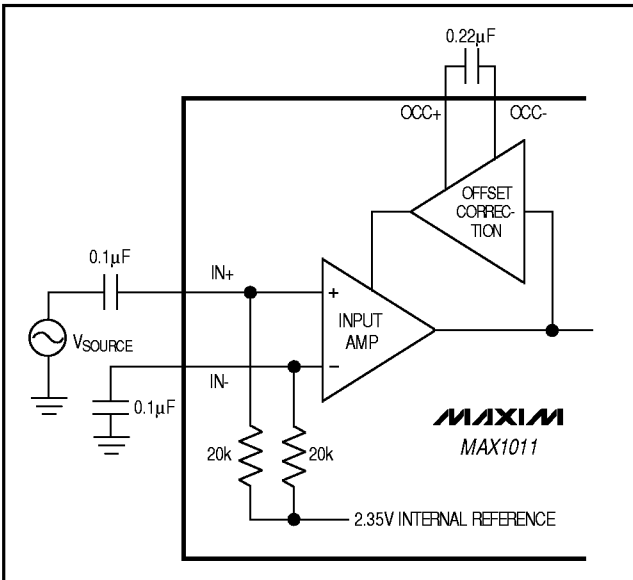

Figure 2. Single-Ended AC-Coupled Input
**Note 5:** Offset-correction compensation enabled, 0.22 $\mu F$  at compensation inputs (Figures 2 and 3).
Single-ended and differential AC-coupled input circuit examples are shown in Figures 2 and 3. Each of the
pole of the offset-correction amplifier's frequency response (Figures 2 and 3). The compensation capacitor will determine the low-frequency corner of the analog input response according to the following formula: